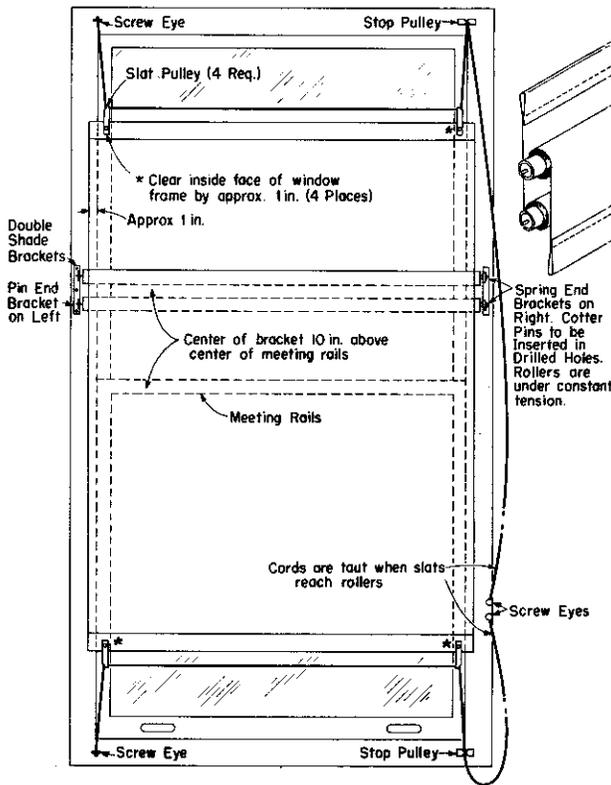

Fig. 2
1.03 The single shade is installed at the top of the window casement and it may be adjusted to cover part or all of the window opening. The double hung shade is installed near the meeting rail of the window in such a manner that one shade may be adjusted to cover the upper half of the window and the other shade the lower half of the window. Generally, the single shade installation satisfactorily provides light control but the double hung shade may be advantageous where more effective light control, together with better ventilation, is required. Where decorative effect is not paramount, the double hung shades as shown in Fig. 2 are preferred to Venetian blinds.
single hung shades. Color is specified. The manufacturer or dealer provides the proper dimension of both the top and bottom shades as indicated by the plan shown in Fig. 2.
3.03 Double hung shades are feasible only for outside bracket mounting. The necessary harness, i.e., cords, pulleys, brackets, screw eyes, etc, as shown in Fig. 2 are furnished with the shades when they are ordered without need for separately specifying them.
4.03 When ordered as above from the Western Electric Company the shade is mounted on the roller by means of a top hem which prevents the shade from being pulled off the roller when over extended. Another hem at the bottom takes a $1-1/4$ " slat, eyelet inserted. The applicable mounting brackets and No. 4 cord of proper length for the type of installation are included. For double hung shades, the harness fittings as shown in Fig. 2 are furnished. For the larger building having a competent window shade installer the shades may be obtained without the rollers.
(b) For double hung shades. The cord should be installed in a continuous length as shown in Fig. 2.
6.05 After installing the brackets as shown in Fig. 2, the shades are then placed in the brackets, the cords attached as shown in Fig. 2, and the tension checked as outlined in Paragraph 5.01.